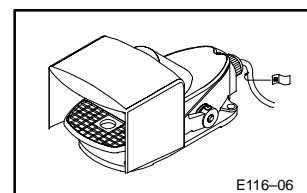

Figure 6: Cable Labeling (Detail provided only on Foot Switch End of Cable)
5. Label both ends of the Foot Switch Kit Cable using the blank Labels (G) provided (Figure 6) and a permanent marking pen.